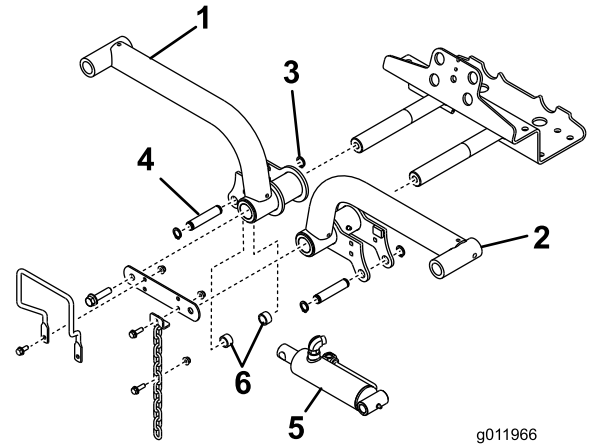

Figure 15
4. Insert the lift arms onto the lift arm pivot shafts (Figure 15), and secure each with a lift arm pivot shaft link and bolts previously removed.
6. Secure the right end of the lift cylinder to the right lift arm with a pin and 2 spacers ((Figure 15),). Secure it with a retaining ring.